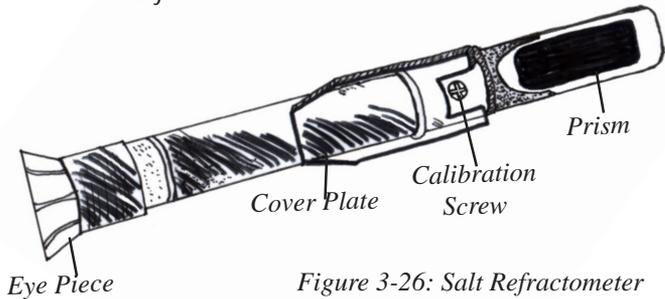

Figure 3-26: Salt Refractometer
- 1 Salt Refractometer (Figure 3-26).